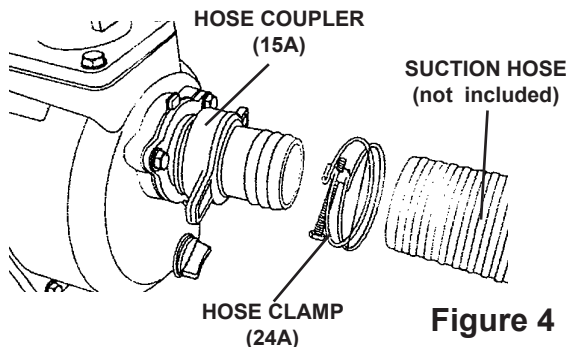

Figure 4
3. Slide Hose Clamp (24A) over end of Suction Hose (not included). Slide Hose onto Hose Coupling. Use a screwdriver (not included) to tighten Hose Clamp until secure. See Figure 4, below.